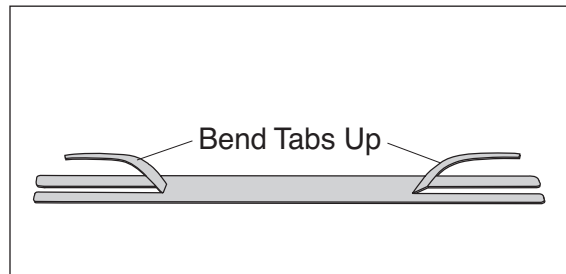

fig. 8
1. Bend tabs to provide a 1/2" dead air space between exhaust pipe and heat shield (Figure 8).
2. Attach the heat shield (N) to the exhaust pipe using the provided clamps (O). See Figure